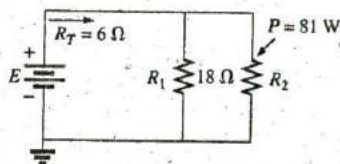

FIG. 6.83
13. Given the information provided in Fig. 6.83, find: